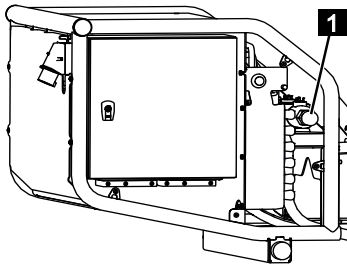

Fig. 184
6. After emergency operation, unlock the valve (Fig.184/1) by turning it anti-clockwise and screw the cover back into place.